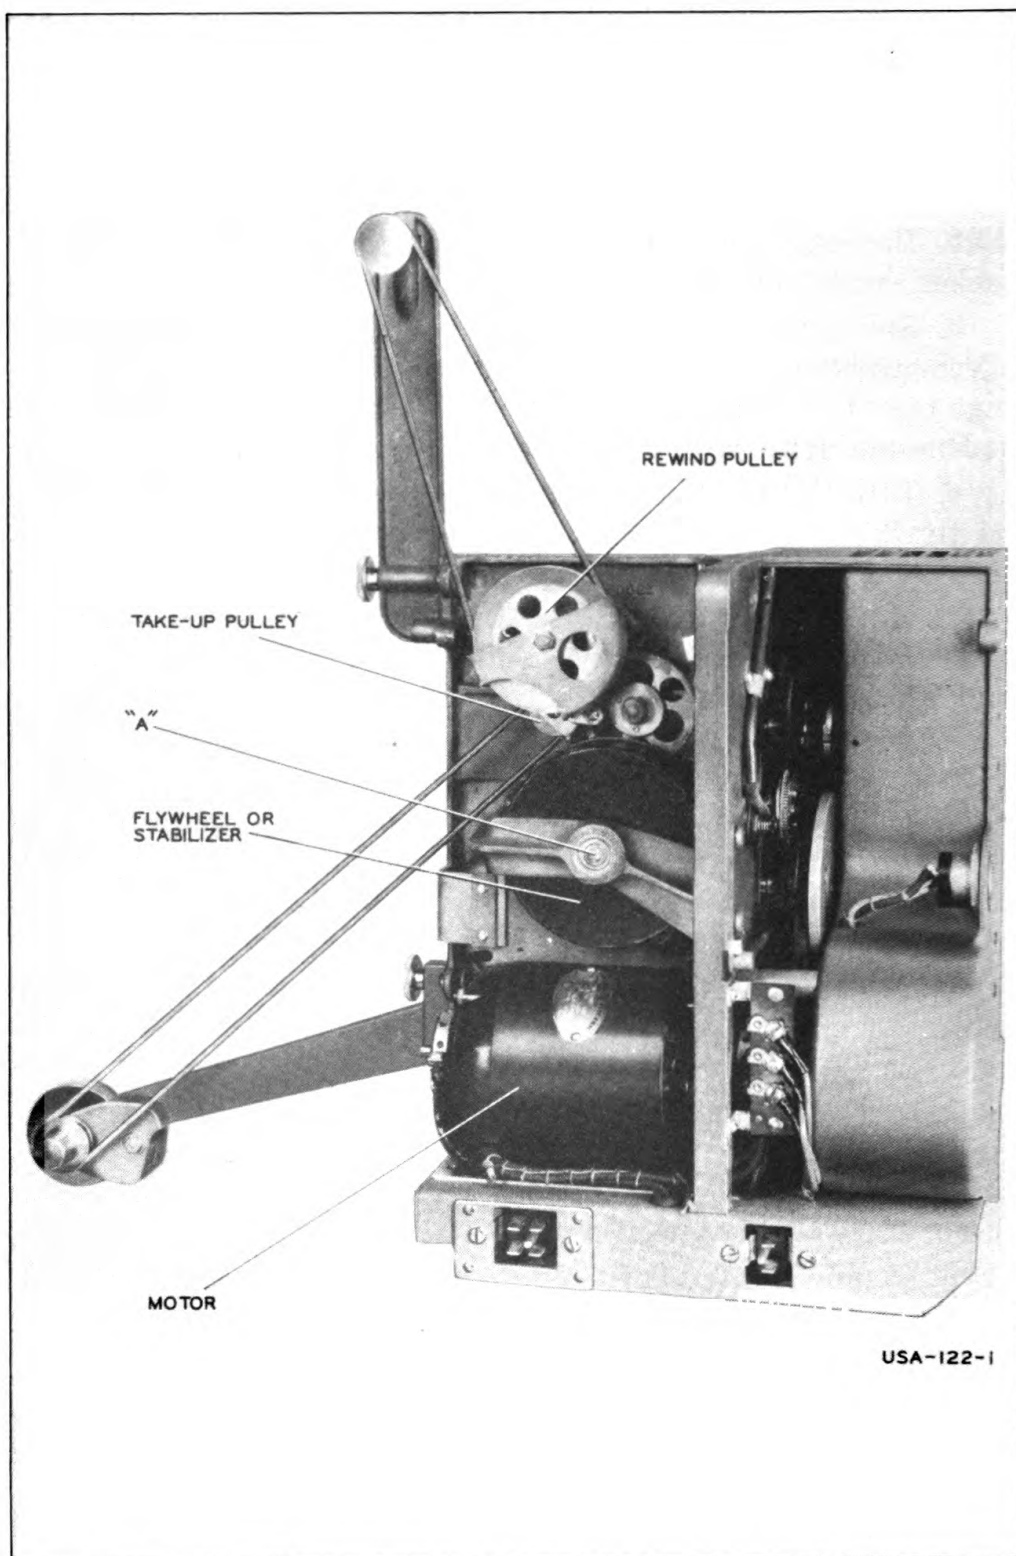

Figure 15—Projector—Case Removed—Showing Takeup and Rewind Belts Threaded
e. Hold the sound drum shaft from rotating by grasping the sound drum between the thumb and forefinger of the left hand and remove the round-head machine screw and washer ("A" of Figure 15) from the flywheel (rotary stabilizer) side of the sound drum shaft assembly.